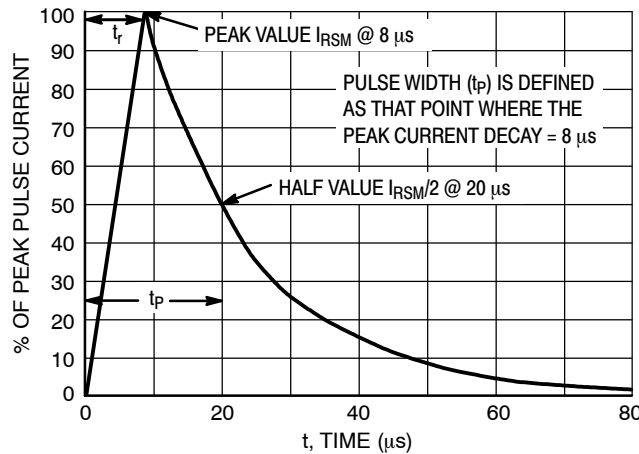

Figure 5. 8 X 20 μs Pulse Waveform
1. Non-repetitive current per Figure 5.
- Surge current waveform per Figure 5.